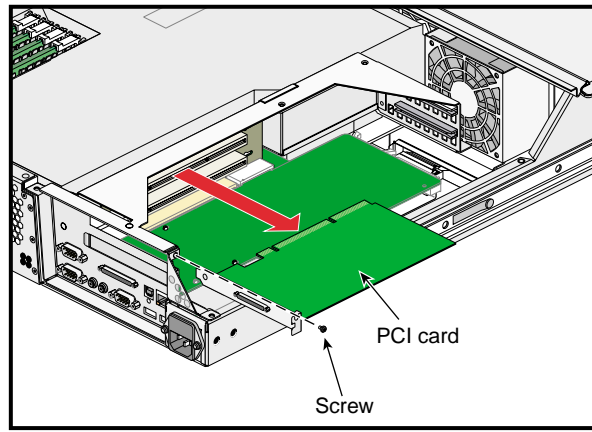

Figure 3-8 Removing a PCI Card
6. Release the retaining screw of the card as shown in Figure 3-8.